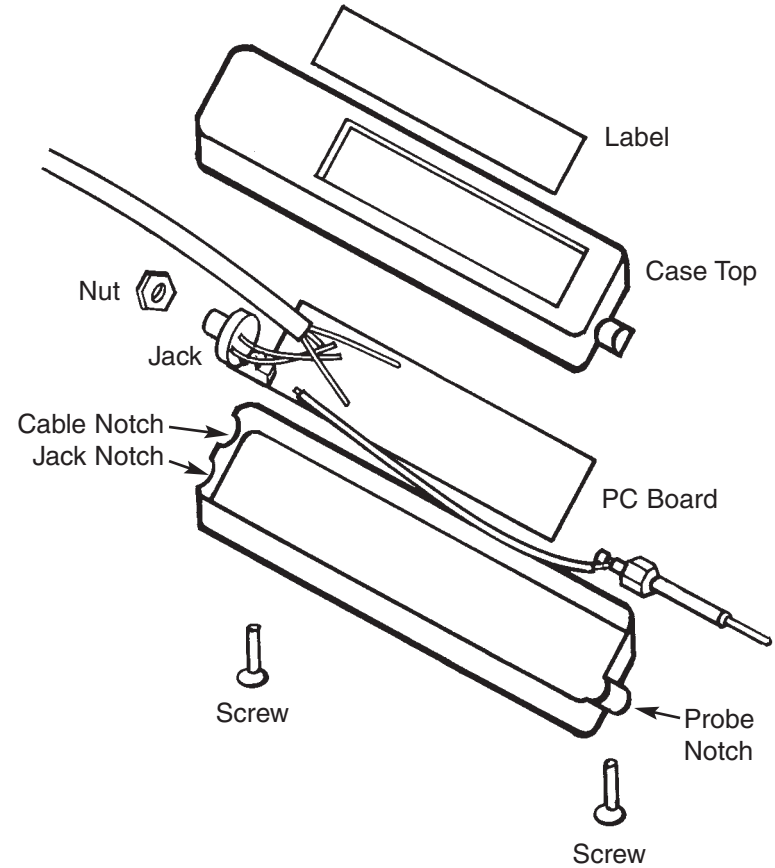

Figure 6
- Place the PC board assembly into the case as shown in Figure 6. Use two #4 screws to hold the case together. DO NOT OVER-TIGHTEN or the holes may strip out. Tighten the nut down on the earphone jack.